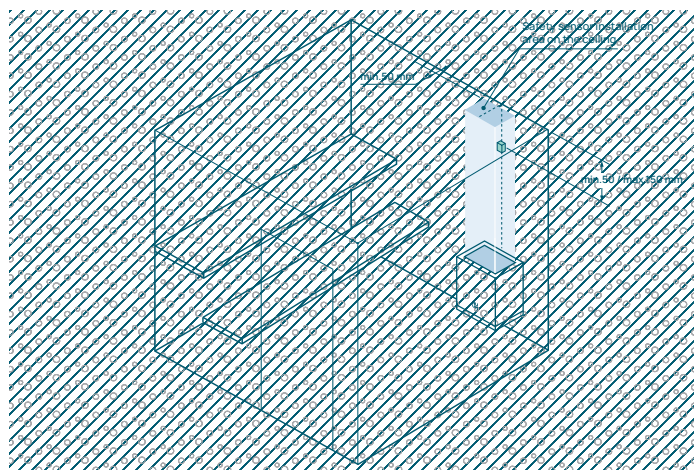

Figure 1. Temperature/Safety sensor placement
* - The minimum safety distances to the ceiling is valid only if the temperature/safety sensor is placed in the designated area on the wall or ceiling as stated in the Figure 1.
* – The minimum safety distances to the ceiling is valid only if the temperature/safety sensor is placed in the designated area on the wall or ceiling as stated in the Figure 1.